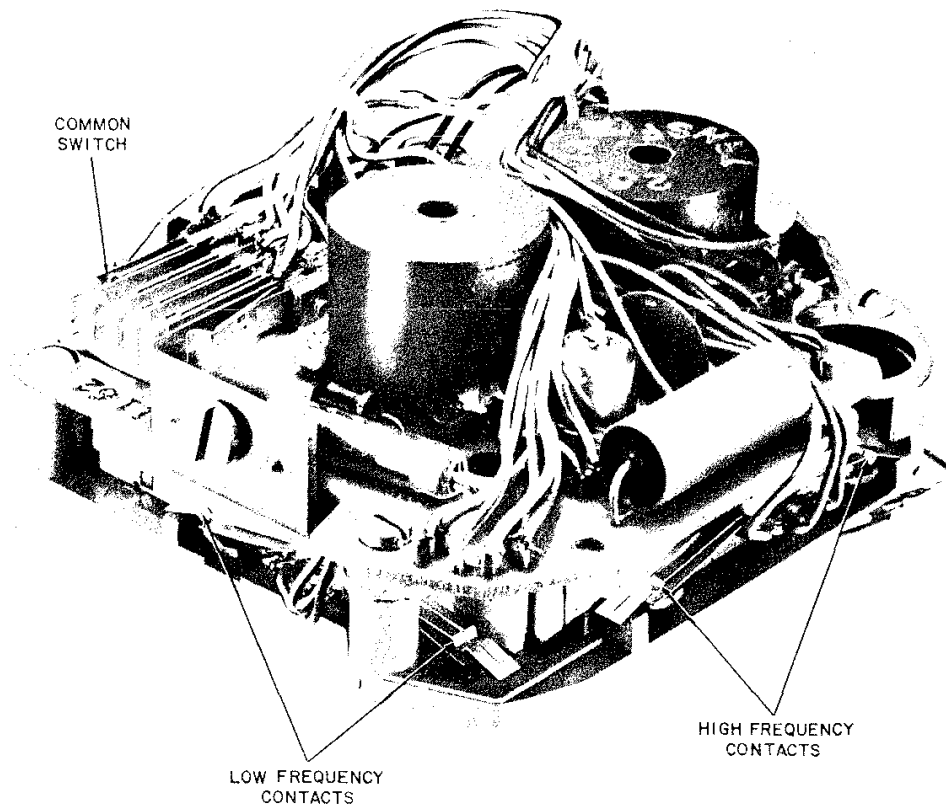

Fig. 3 — 25-Type Dial, Rear View
2.04 Continued travel of the button will operate the common switch (Fig. 3). Each button operates a different pair of frequency contacts. All buttons operate the common switch. The signal will remain on the line as long as the button is depressed. For example: when button number 5 is depressed, it selects frequencies of 770 and 1336 cycles simultaneously for transmission to the central office.
2.05 The common switch (Fig. 3), when operated, reduces the sidetone to the receiver, opens the transmitter path, applies bias voltage to the transistorized oscillator, and breaks the dc energy path to the tank coils.